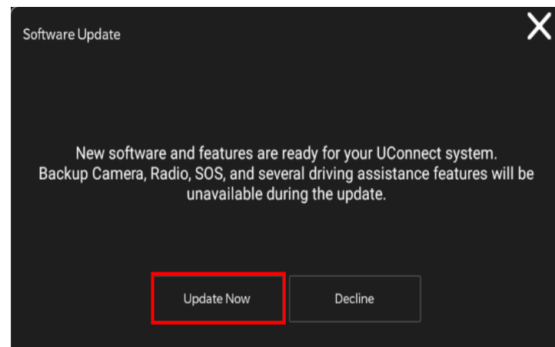

Figure 1
3. Display screen will display “Update Now” or “Decline” (Figure 1).
4. Select “Update Now” to update the radio software (Figure 1).